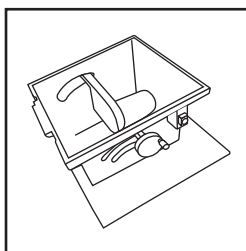

Fig. 2
- Turn the machine body upside down and place on a clean, secure surface. Ensure the blade adjustment handle is facing you. (Fig 2)